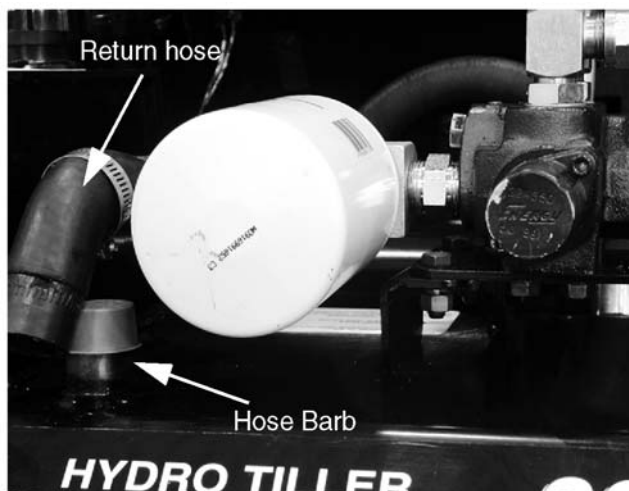

Figure 8-84.
4. Pry the return hose off of the hose barb on the reservoir. See Figure 8-84.